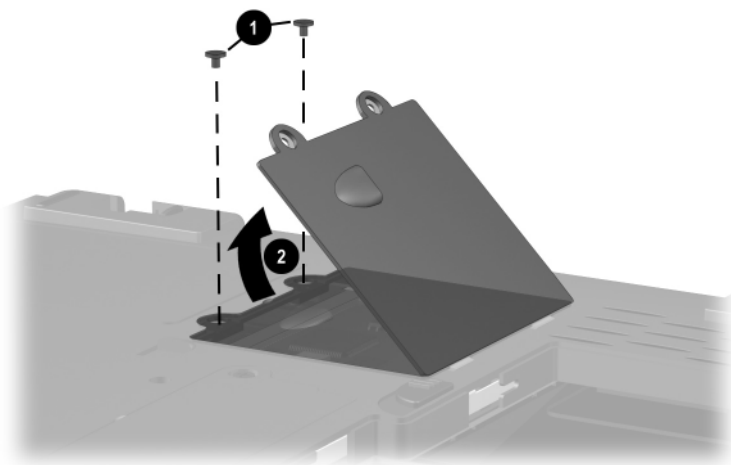

Figure 5-3. Removing the Mini PCI Compartment Cover
3. Remove the two black PM2 × 4 screws ❶ that secure the mini PCI compartment cover to the base enclosure (Figure 5-3).